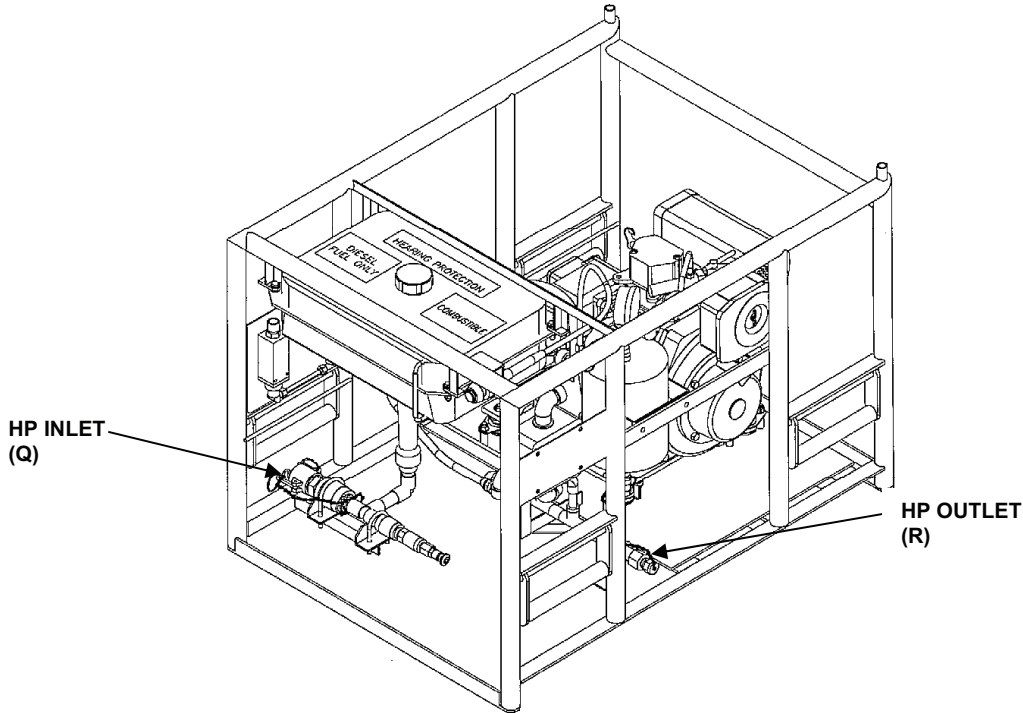

Figure 9. High-Pressure Pump Module Outlet Connection.
17. Connect one end of the high-pressure hose (braided steel) from the COEI box to the high-pressure module outlet (R). Tighten securely. See Figure 1 and Figure 9.